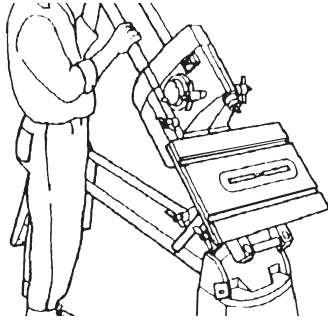

Figure 3
2. Tighten the Headstock and Carriage Locks. Place the MARK V in the vertical position by loosening the Headrest Handle, firmly grasping the Way Tubes near the Headrest end, and lifting the Tubes into the 90° position, as demonstrated in Figure 3.